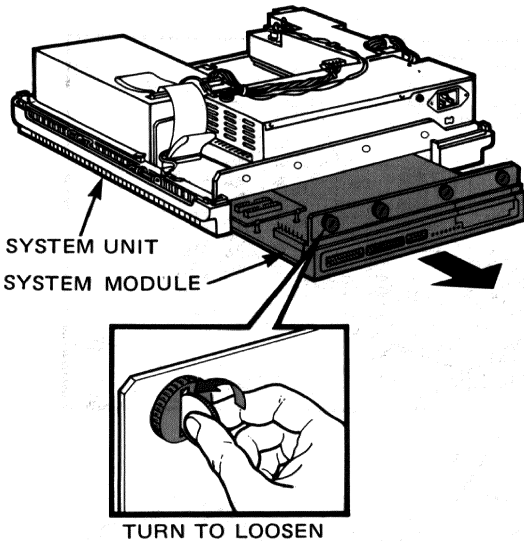

Figure 5-7 System Module Removal
9. Use a coin and turn all four screws once (Figure 5-7). Repeat until all four screws are loose and you can slide the system module out of the system unit.